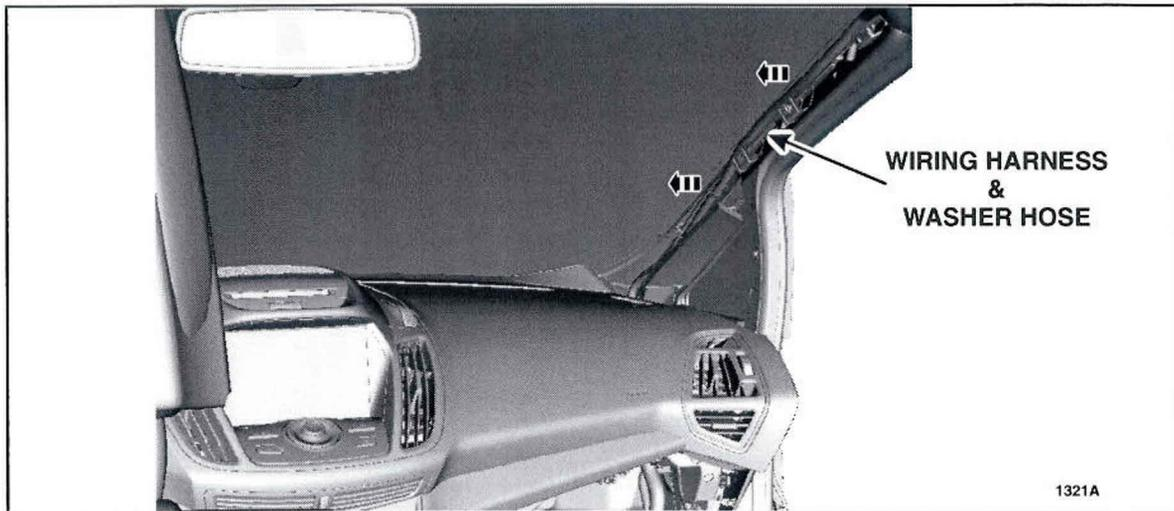

FIGURE 6
- Unclip the wiring harness and washer hose from the RH A-pillar. See Figure 6. Unclip the AM/FM satellite radio antenna wire from the LH A-pillar.
28. Clip the AM/FM satellite radio antenna wire into the LH A-pillar. Clip the wiring harness and washer hose into the RH A-pillar. See Figure 6.